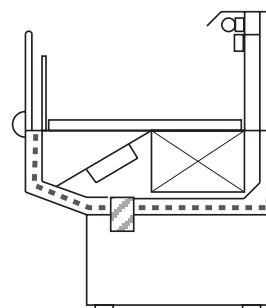

Fig. 2, #1
5. Apply liberal bead of case joint sealant (butyl) to dotted area shown in (Fig.2, #1) of first case. Apply heavy amount to cover entire shaded area.